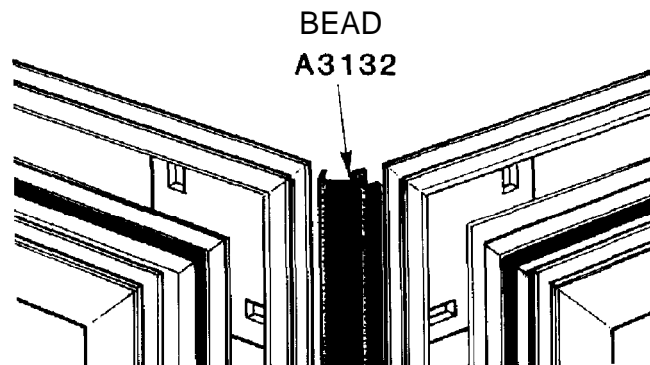

Figure 2.13 - FITTING BEADING A3132
8.6.1 Method 1 : Workshop Assembly (Figs 2.13, 2.14)
For each window joint cut a length of Beading A3132 to the height of the window. Press the U shaped part of the beading into the channel on the inner edge of one of the window frames with the single 'leg' of the beading between the frames. Refer to Fig 2.13.